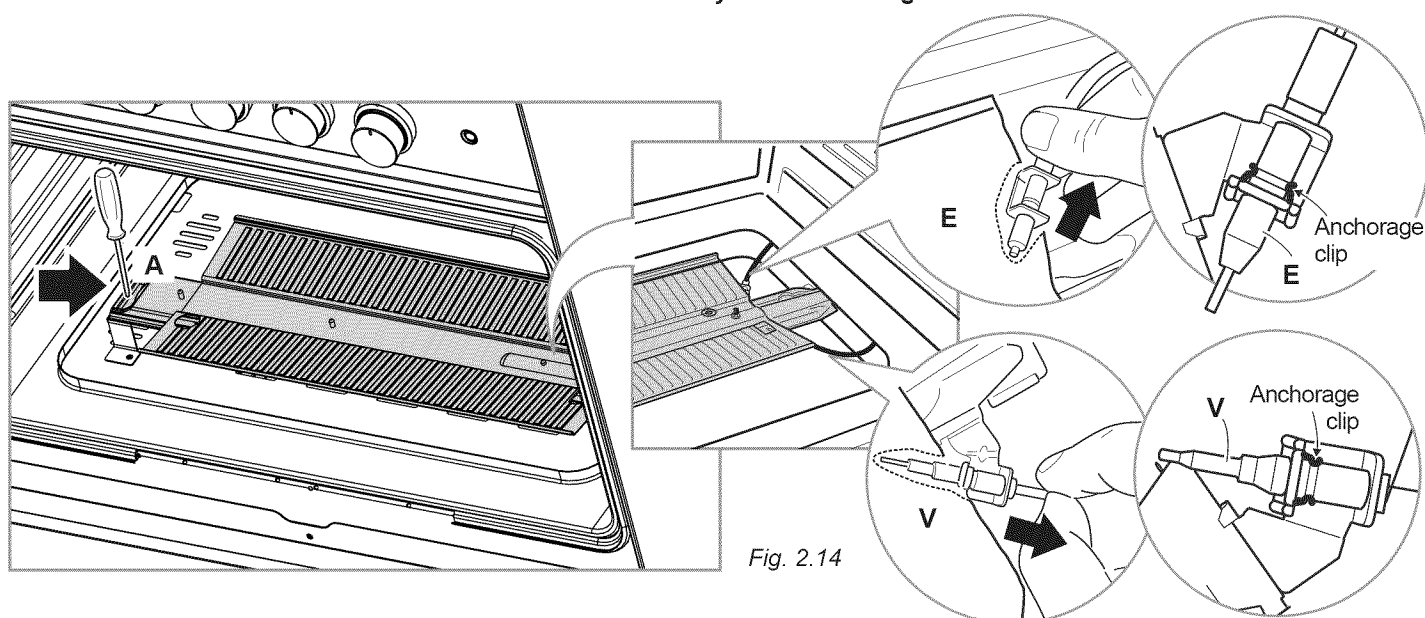

Fig. 2.14
- Gently unlock, from the burner, the safety valve probe "V" and the ignition electrode "E" (as indicated in fig. 2.14). Take care not to damage the probe and the ignition electrode.
- Unscrew and remove the burner securing screws "A" (fig. 2.14).
IMPORTANT: Pay special attention to replace correctly the safety valve probe "V" and the ignition electrode "E" as per figure 2.14. Check the correct operation of the safety valve and the ignition electrode.